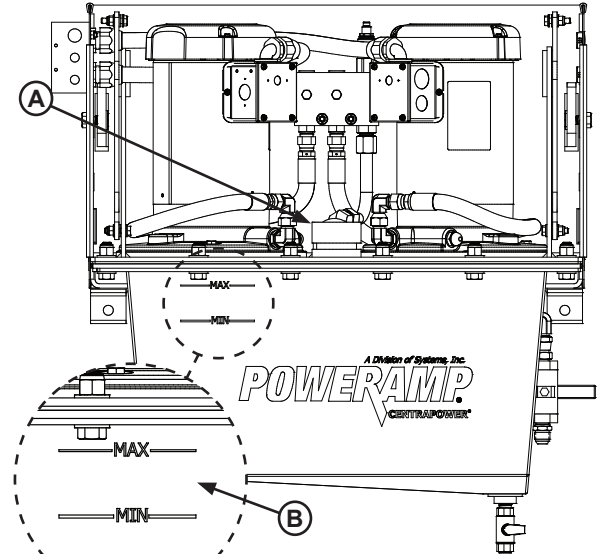

Figure 23
- Check reservoir fluid level (see Figure 23):
3. Open the cover and remove the fill cap (A).
4. Add hydraulic fluid if necessary. Use only recommended fluid (see page 20). Fluid level should be between the MIN and MAX lines (B).
5. Reinstall the fill cap (A) and close the cover.